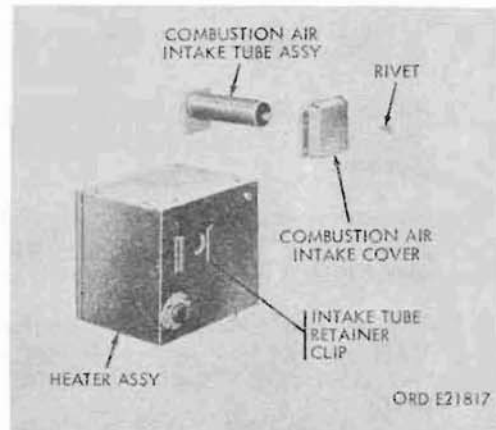

Figure 382. Heater air intake
- (7) Remove air intake tube assembly from heater by sliding assembly upward (fig. 382).
hind retainer clips on rear of heater unit, and sliding assembly downward (fig. 382).